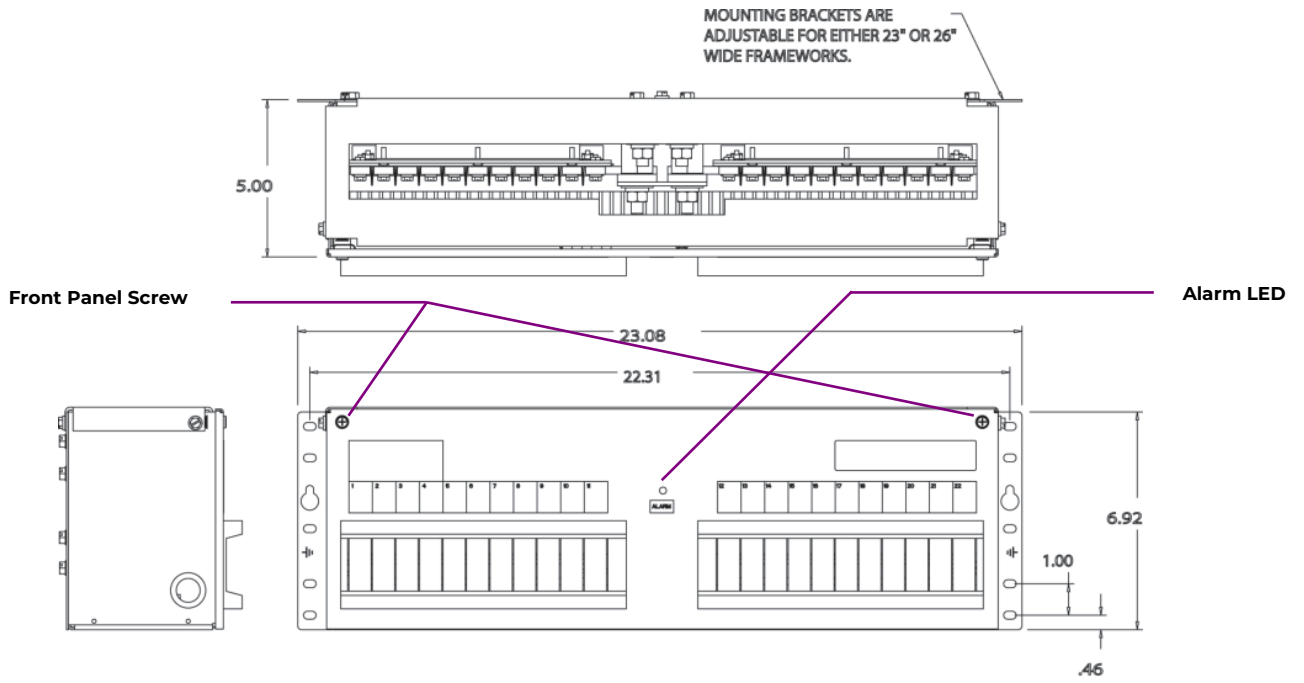

Figure 1 Group 1 23" Panel with 477D Alarm Card
1. Lamp Test does not activate 5067 Alarm LED - Figure 1.